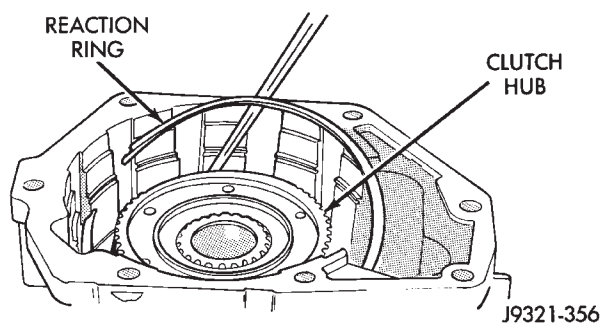

Fig. 12 Removing/Installing Overdrive Clutch Reaction Snap Ring
(2) Remove overdrive clutch reaction snap ring (Fig. 12). Note that snap ring is located in same groove as wave spring.